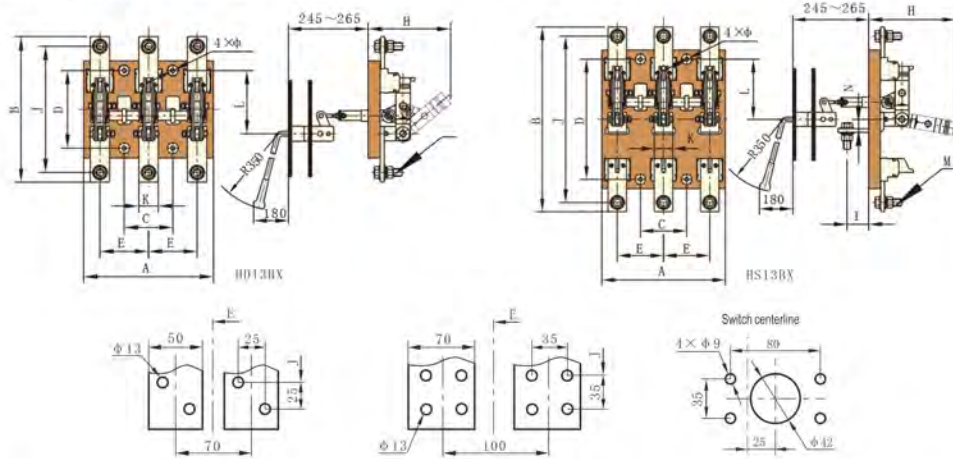

Figure 11
5.11 HD(HS) 13BX-2000, 3000/31, 41 overall and installation dimension (see Figure 11, Table 12)